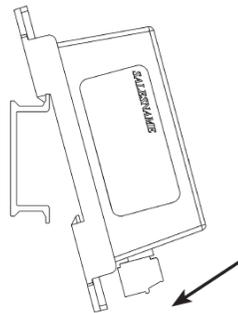

Figure 4: Catch EZ Mount hook on DIN rail before rotating sensor into place
- Catch EZ mount hook on DIN rail as shown in Figure 4.